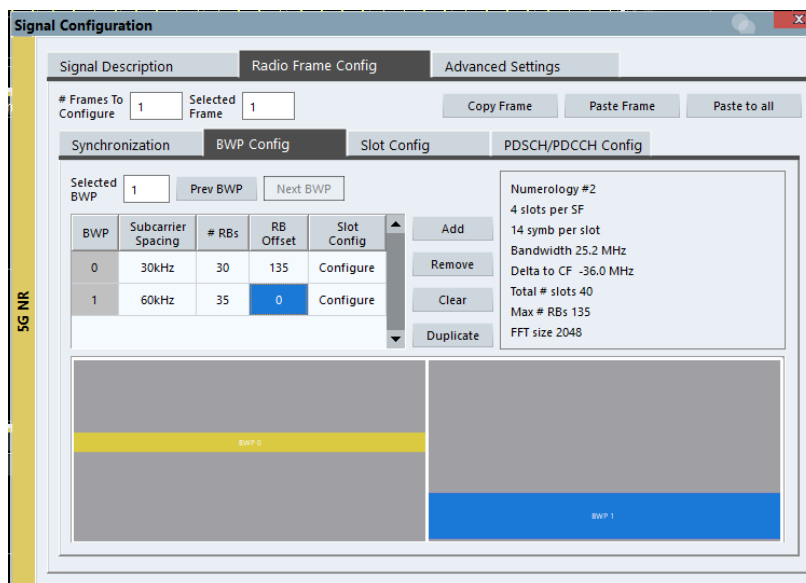

Fig. 2-18: BWP configuration settings in Radio Frame Config menu
- 1 BWP 0 and 1 needs to be configured as shown in Fig. 2-18